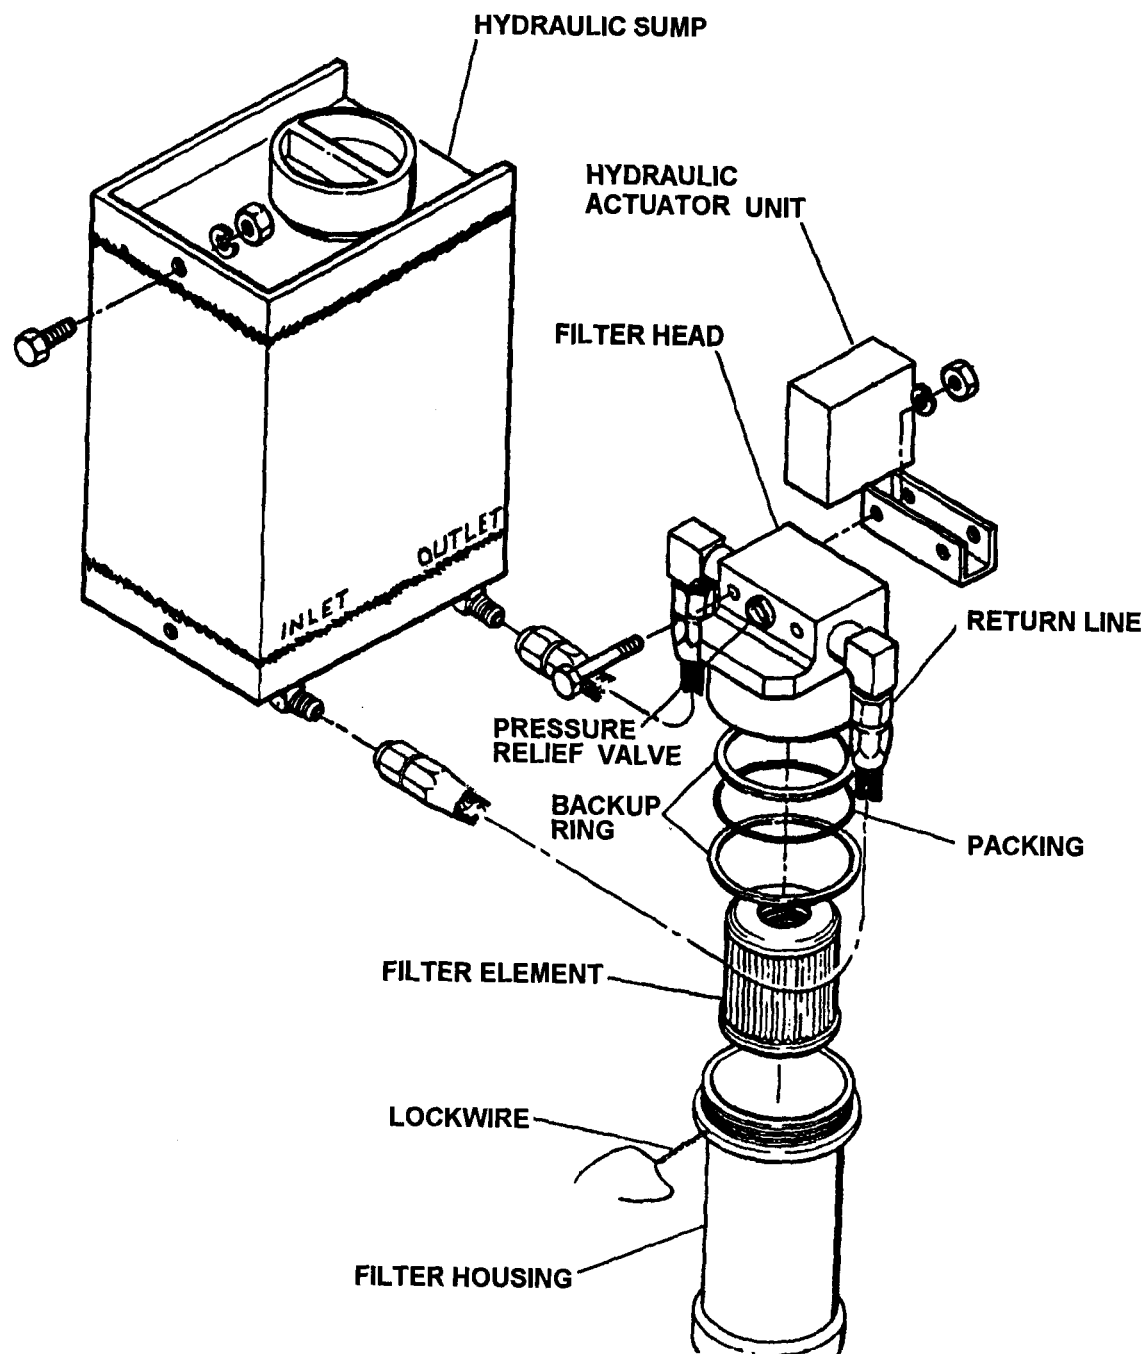

Figure 4-28. Hydraulic Sump and Filter Service
- a. Disconnect return line from hydraulic actuator unit and allow the oil to drain into a suitable container (Figure 4-28).